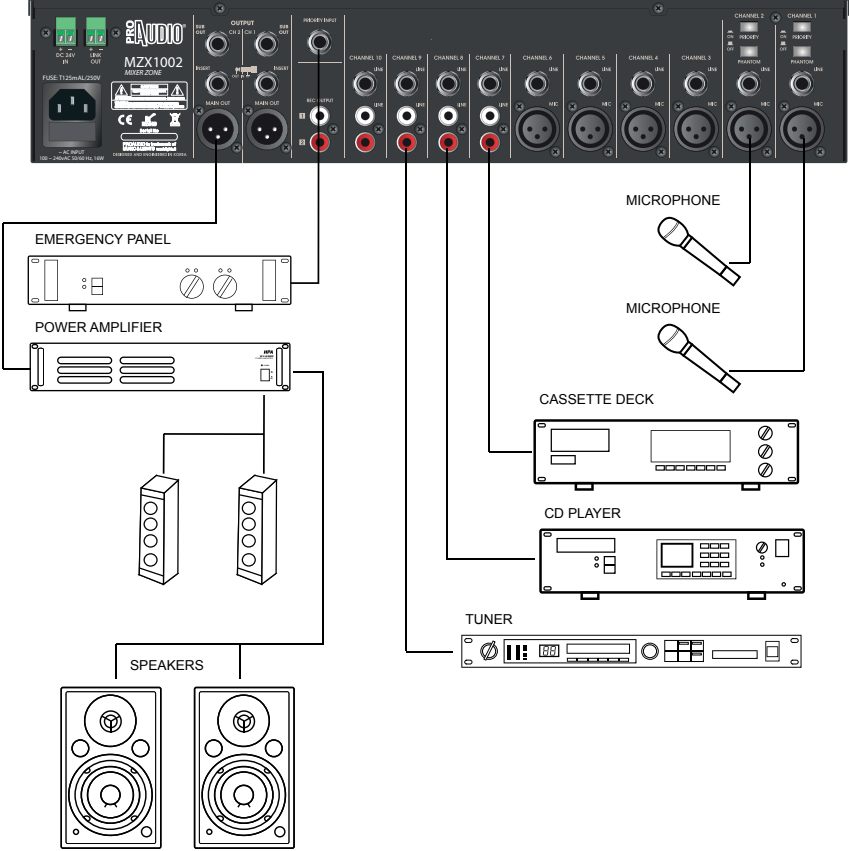

Fig.6
3. **CHANNEL INSERT** These insert jacks allow connecting external effectors like compressor, limiter, noise filters. M&L would like to recommend using proper insert cable as below Fig.6